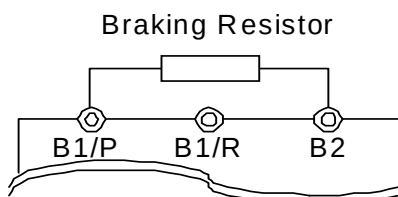

Figure 6 Wiring Diagram for External Braking Resistor (20Hp and Below)
- (A) C10 230/460Vac units up to 20Hp, have built-in braking transistor and can be connected to a external braking resistor between B1/P and B2 (see Figure 6) when increased braking is required for the application
- (B) C10 230/460Vac units 25Hp and above need a braking module connected to (+ and – Terminals) and braking resistor if increased braking is required for the application.